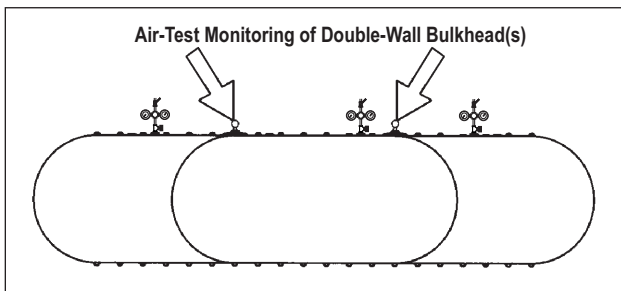

FIGURE 3-9
3.6.4.1. After the primary and secondary tanks have been pressurized, install a 4-inch NPT plug with a 0-15 psig gauge (1/4-lb. or 1/10-lb. increments) into all monitor fittings leading into the double-wall bulkhead(s). (See FIGURE 3-9.)